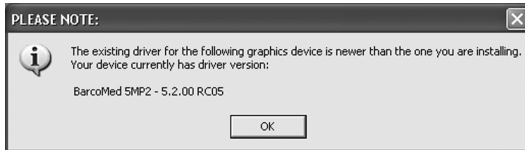

Figure 18
11. If you selected a device with an existing driver, the wizard will compare the existing driver's version against the version of the driver you are installing. If the existing driver's version is newer than the one you are installing, the wizard will warn you that the current driver is newer than the one you are installing (figure 18).